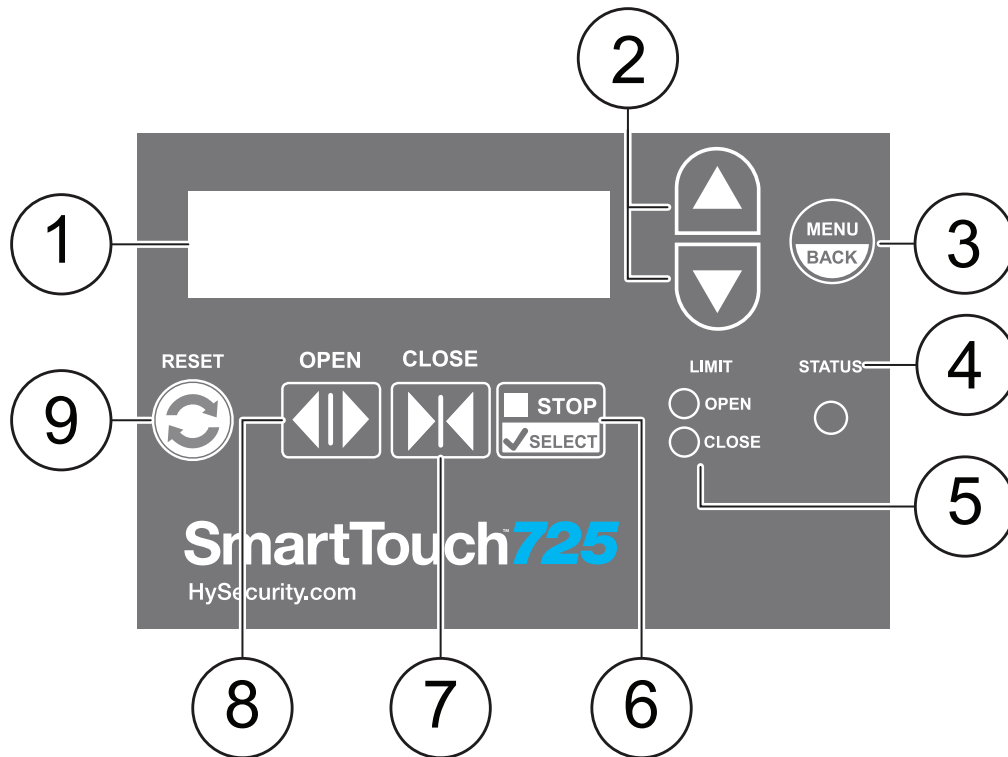

Figure 20. SmartTouch 720/725 Controller User Interface
Check the limit flag handing matches the Open and Close Limit on the SmartTouch 720/725 Controller (Figure 20, Item 5).
5. Check that the appropriate limit activates according to the SmartTouch 720/725 Controller (Figure 20, Item 5).